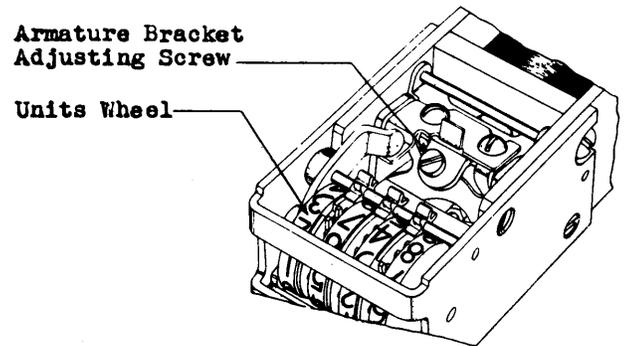

Fig. 9 – Register Equipped with Balanced Pawl Armature
- (1) If the units wheel is advanced too far, if the operating pawl binds on the overthrow stop, or if the operating pawl does not drop into its normal position in front of a tooth on a register equipped with a balanced pawl armature (see Fig. 9), turn the armature bracket adjusting screw out (counterclockwise) with the 3-inch cabinet screwdriver until the required adjustment is obtained. If sufficient clearance cannot be obtained in this manner, proceed as outlined (3). Check the register as covered in (4) and (5).